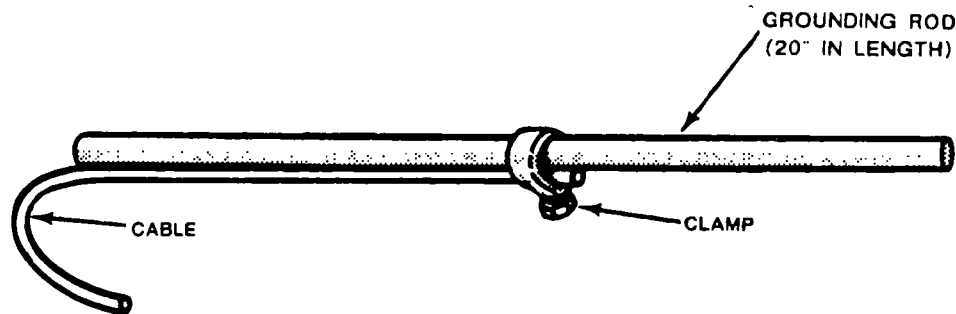

Figure E-1. Cable Clamped to Rod
Step 3 - Using the conductor splice, clamp one end of the cable to the 20-inch section of rod approximately 11 inches from the end of the rod (Figure E-1).